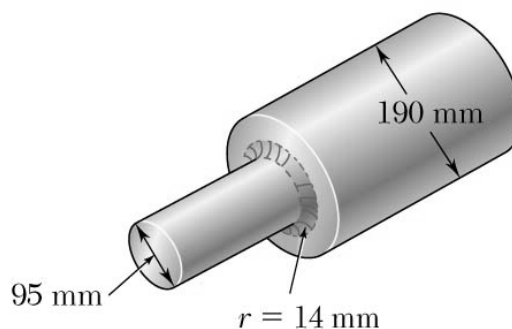

Figure Q3[a]
- (ii) A stepped shaft shown in Figure Q3[a] is to rotate at 900 rpm as it transmits power from a turbine to a generator. The grade of steel specified in the design has an allowable shearing stress of 55 MPa. Determine the maximum power that can be transmitted. (Power, $P = 2\pi fT$).**